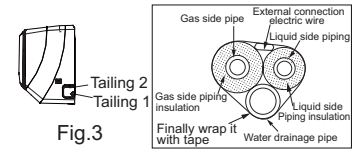

Fig.3
1. When routing the piping and wiring from the left or right side of indoor unit, cut off the tailings from the chassis when necessary (As shown in Fig.3)